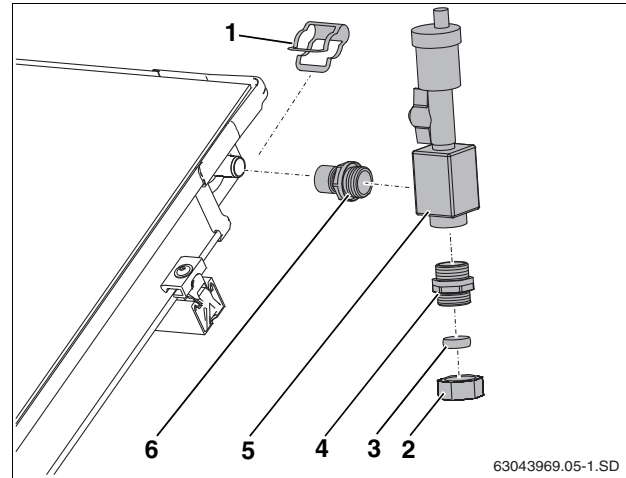

Fig. 60 Connecting the air vent
- ▶ Firmly screw nipple (Fig. 60, [6]) and double nipple (Fig. 60, [4]) into air vent body (O-ring gasket).
- ▶ Push air vent (Fig. 60, [5]) and nipple onto collector connection until it hits the stop, and secure with air vent body.
- ▶ Connect supply pipe to the compression fitting 1/2" (Fig. 60, [2]).